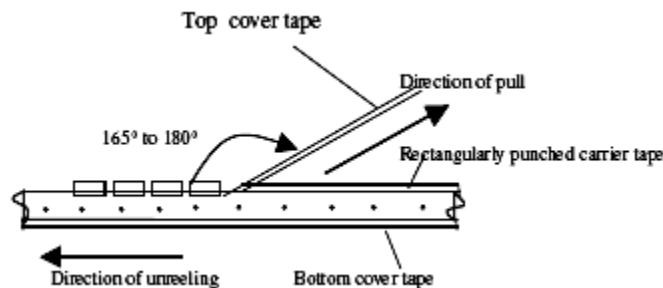

Fig. 4 Peeling Test
- d) The peel force of top cover tape shall be 0.1N to 0.7N (10 to 70 gf) when the top cover tape is pulled at a speed of 300 mm/min with the angle between the tape during peel and the direction of unreeling maintained at 165 to 180 degree as illustrated in Fig 4.